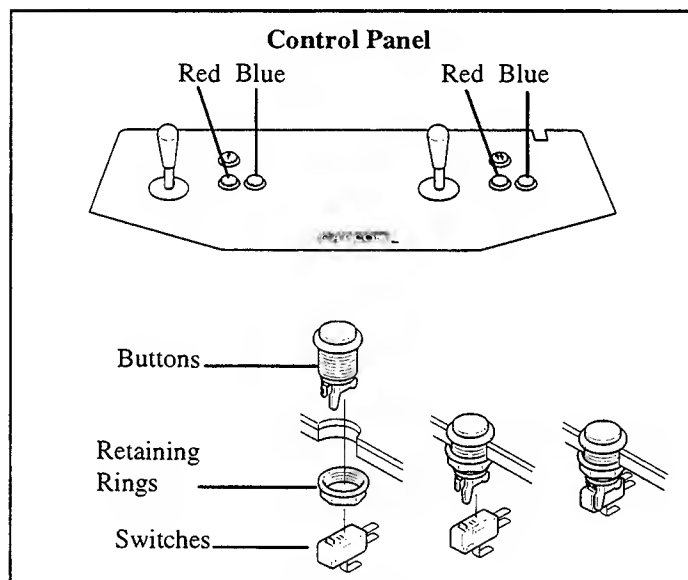

FIGURE 2
15. Install all buttons and retaining rings on the control panel as shown in Figure 2. Install two RED buttons to the immediate right of each joystick and install two BLUE buttons to the immediate right of the green ones.
17. Install the switch on the buttons as shown in Figure 2. Orient the switches so that when a button is pressed, the red contact on the switch is depressed.